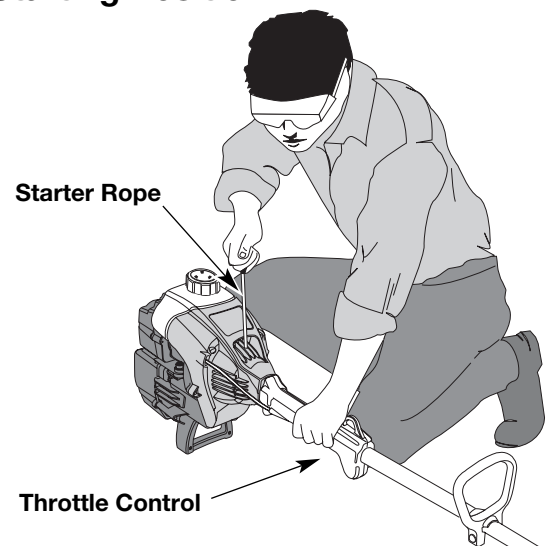

Fig. 8
WARNING: Avoid accidental starting. Make sure you are in the starting position when pulling the starter rope (Fig. 8). To avoid serious injury, the operator and unit must be in a stable position while starting.
4. Crouch in the starting position (Fig. 8) and squeeze the throttle control. Pull the starter rope briskly 5 times.